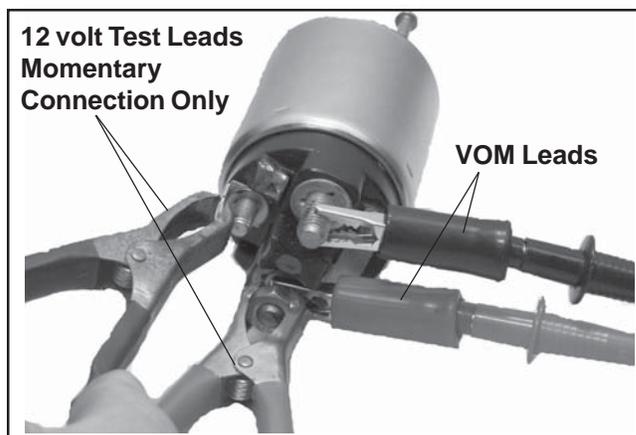

Figure 8-46. Testing Pull-In Coil/Solenoid Contact Continuity.
Use an ohmmeter set to the audible or Rx2K scale, and connect the two ohmmeter leads to the two large post terminals. Perform the preceding test (1) and check for continuity. See Figure 8-46. The ohmmeter should indicate continuity, if no continuity is indicated the solenoid should be replaced. Repeat test several times to confirm condition.